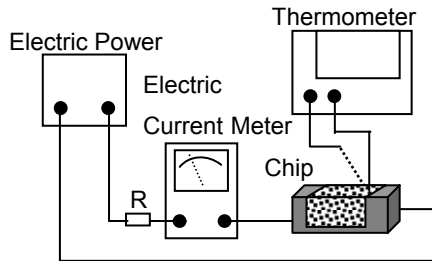

Fig. 6.3.3-1
- Definition of Rated Current(IDC): IDC is direct electric current as chip surface temperature rose just 20°C against chip initial surface temperature(T_a). (see **Fig. 6.3.3-2**):